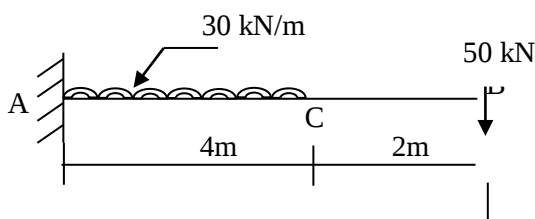

Figure :3, Q.4 (a)
- Q.4(a)** Find slope and deflection at the free end of cantilever beam shown in figure 3. (Use Castigliano's first theorem). Take $EI = 10 \times 10^4 \text{ kNm}^2$. **07**